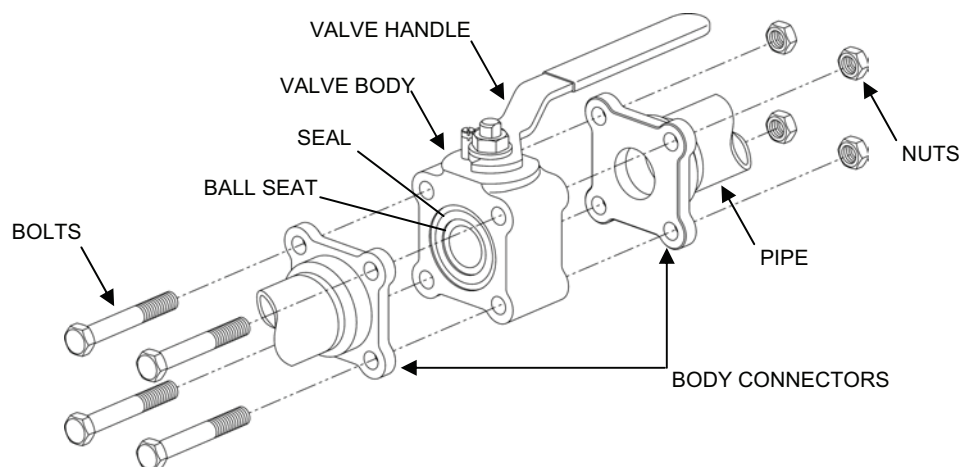

Figure 5. Welded Ball Valve Body Replacement.
2. Remove the welded ball valve from the pipe line as follows (see Figure 5):
4. Install the new valve body as follows (see Figure 5):